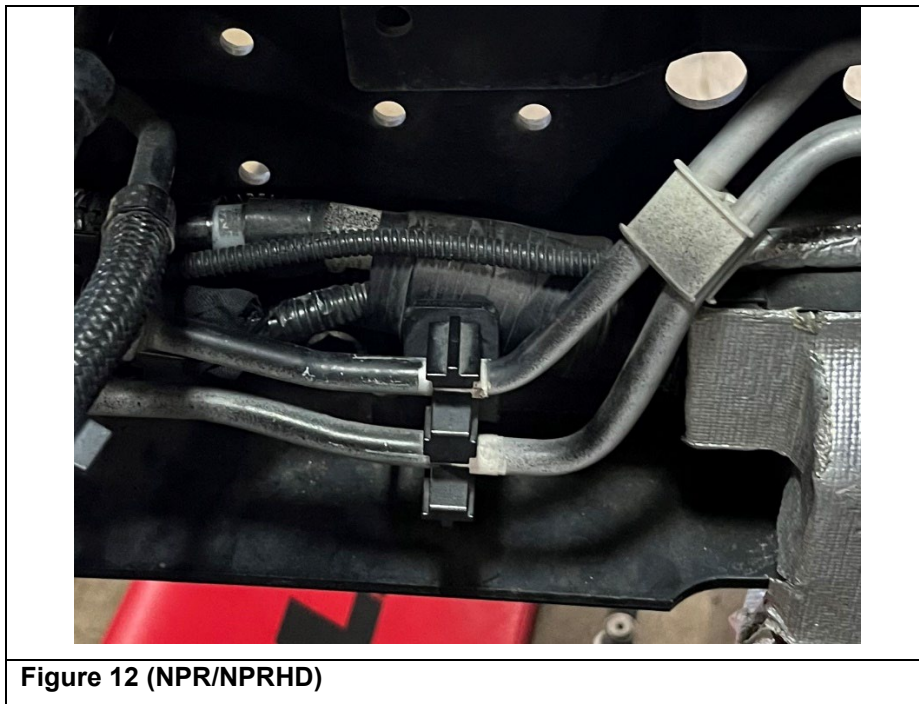

Figure 12 (NPR/NPRHD)
15. **(NPR NPRHD ONLY)** – Check the transmission cooler line position. Be sure the white tape mark on the cooler line lines up with the clip on the mounting bracket. (See Figure 12.)